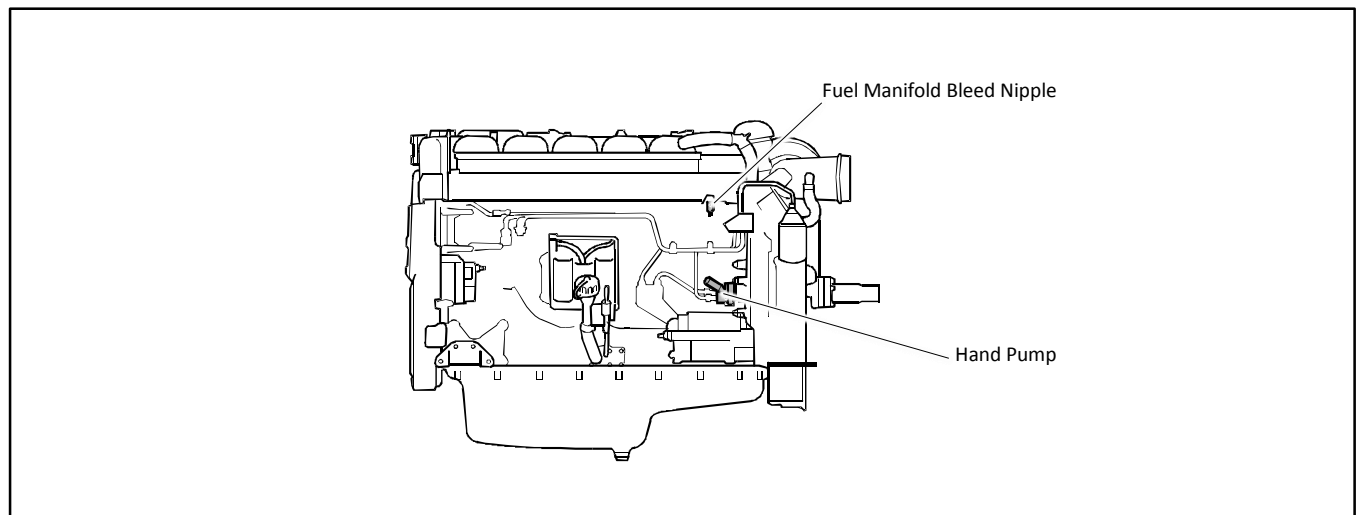
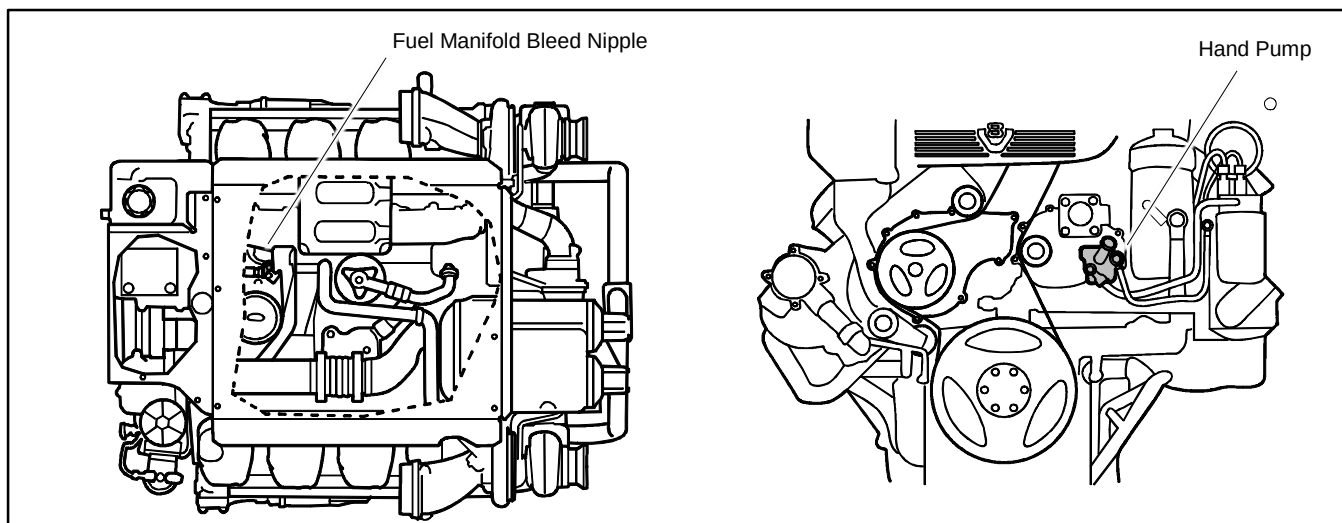

Figure 16 350EOZCS/300EFOZCS Bleed Nipple/ Hand Pump Location
Figure 17 500EOZCS/450EFOZCS Bleed Nipple/ Hand Pump Location
1. Attach a clear plastic hose to the bleed nipple on the fuel manifold. See **Figure 16** or **Figure 17**. Start by wiping off the bleed nipple. Place the end of the plastic hose in a container that holds at least 3 liters (1 gallon).